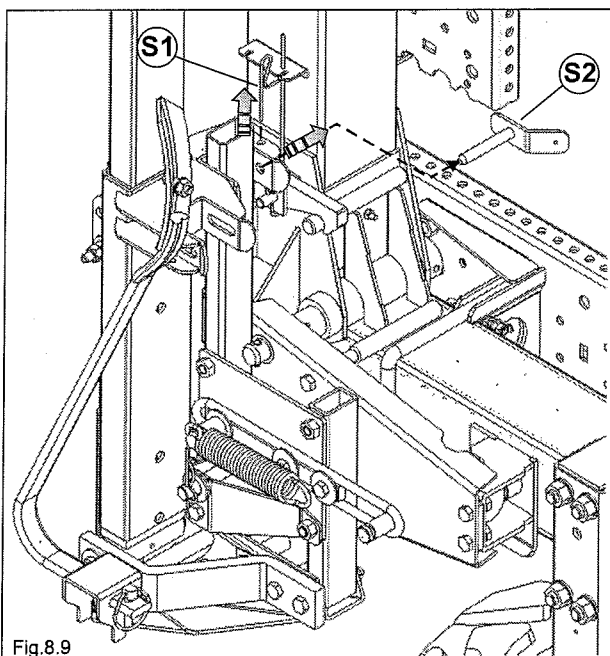

Fig. 8.9
- Remove the safety pins **S1 - S2** (Fig. 8.9)